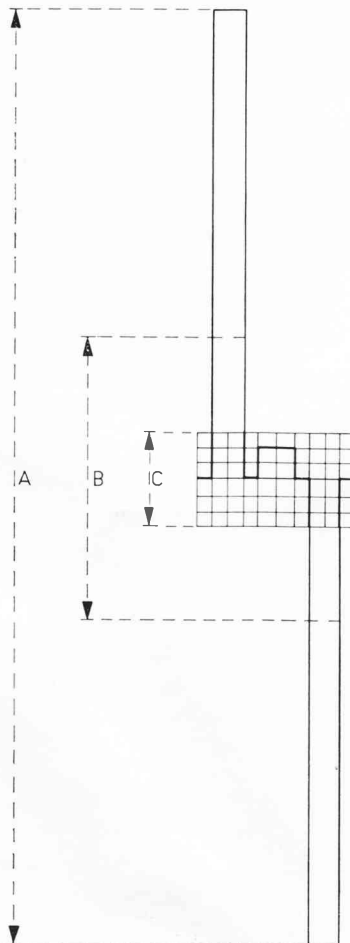

Fig. 8. Limits of the Y deflection
Figure 8 indicates the maximum magnification (A) and the part of the magnified signal (B) that can be displayed on the screen (C) by means of the "SHIFT" control.